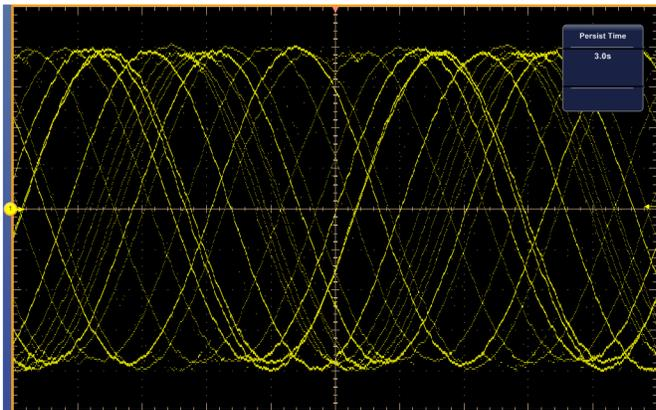

Figure 45: Clock recovery
- e. Verify that lock is acquired. (See Figure 45 on page 328.)